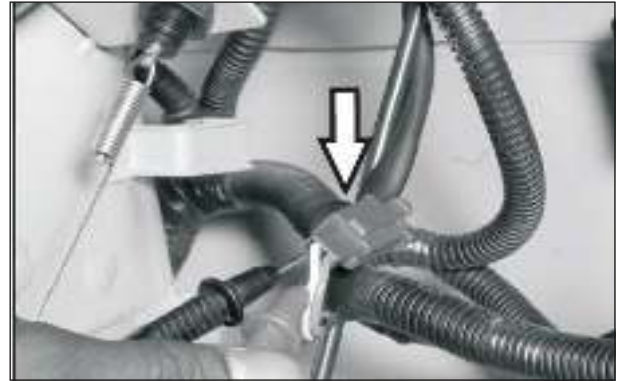

Fig. 6.27
- Set Multimeter in continuity inspection mode, connect +ve probe of the multimeter to the orange (Or) wire and -ve probe of the multimeter to the white (W) wire. Beep sound should be heard only when brake pedal is pressed and should stop when brake pedal is released. Replace switch assy if found malfunctioning. (Fig. 6.27)